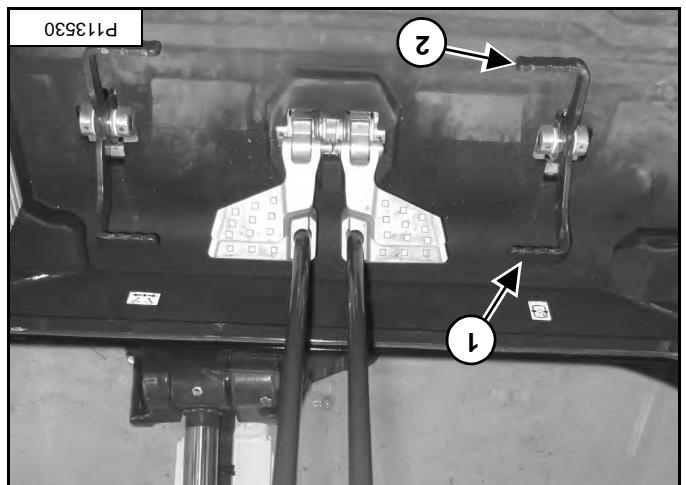

Figure 114
Press the toe of the pedal (item 1) [Figure 114] to provide hydraulic flow / pressure to the male coupler. The auger will rotate counter-clockwise. Release the pedal to stop the hydraulic flow and auger rotation.
Press the heel of the pedal (item 2) [Figure 114] to provide hydraulic flow / pressure to the female coupler. The auger will rotate clockwise. Release the pedal to stop the hydraulic flow and auger rotation.